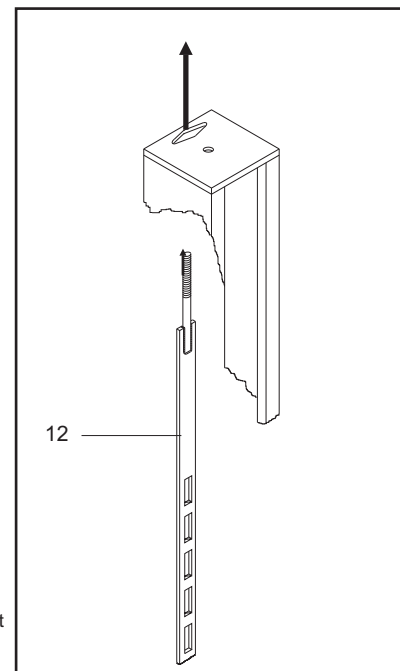

Fig.41 Removing safety rod from top of post
Remove the safety rods (12) from the top of the posts (1-2-3-4) as shown in fig.41.